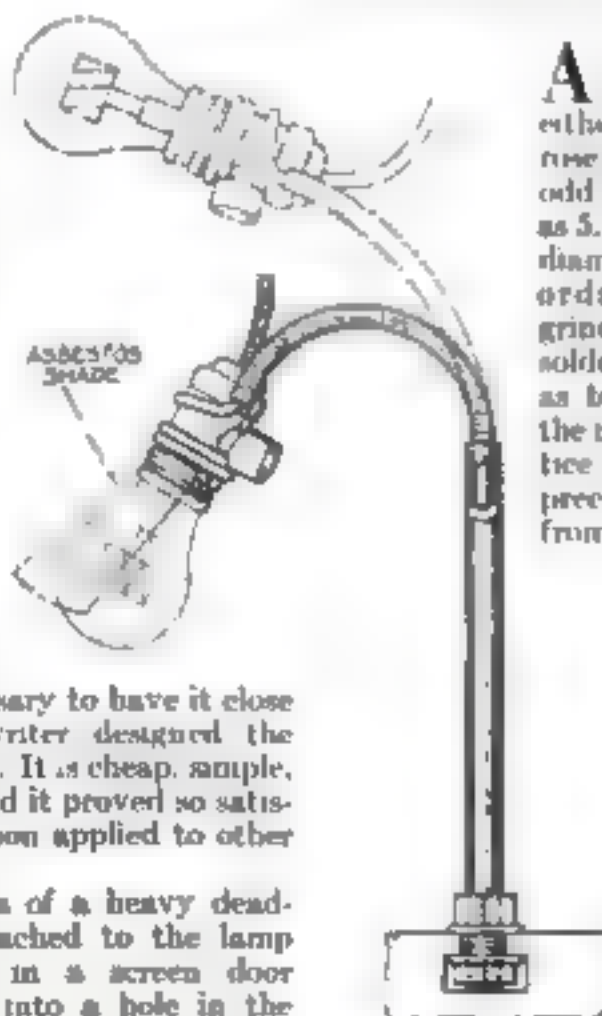

Fig. 2. Flexible lamp holder for mechanics which is easily made.
**B**ECOMING tired of the makeshifts ordinarily used to hold a lamp on a lathe when it is necessary to have it close to the work, the writer designed the holder shown in Fig. 2. It is cheap, simple, and quickly made; and it proved so satisfactory that it was soon applied to other machine tools.